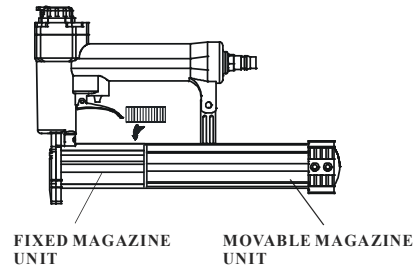

Figure 3
1. Depress the LOCK to release the MOVABLE MAGAZINE (39) and pull the magazine out fully as shown in Figure 3.